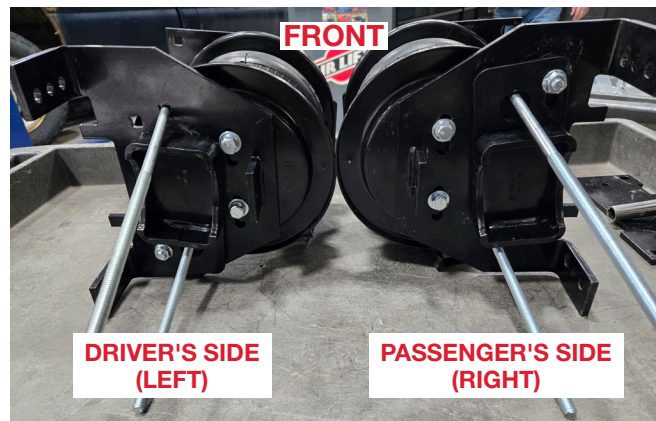

Fig. 14
7. Push the lower bracket as far forward as possible to match the upper bracket (refer to Fig. 14). Torque the hardware to no more than 20 lb.-ft. (27Nm).